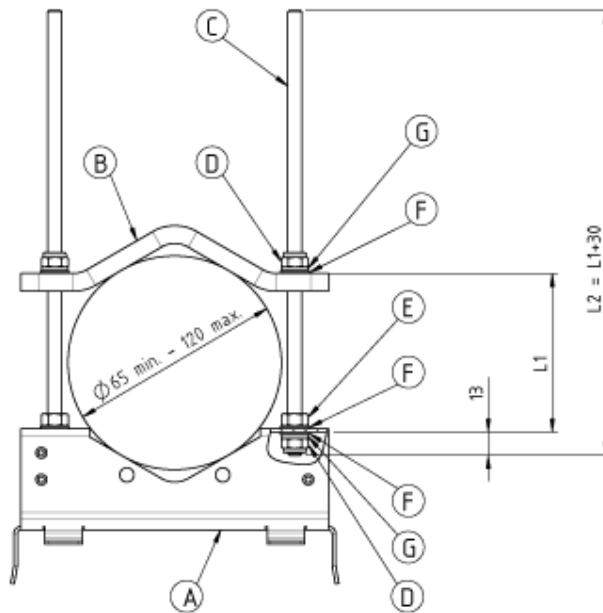
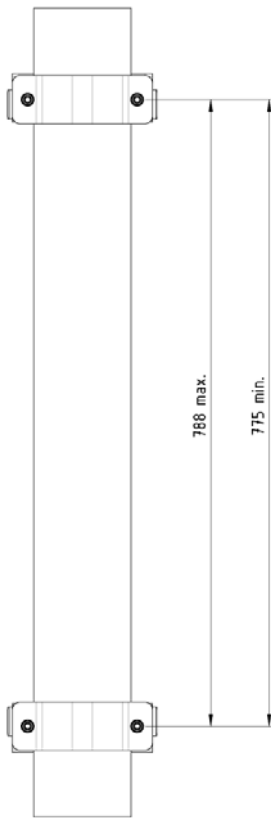

figure 4-6 Pole mounting – with brackets
figure 4-7 Pole mounting - pitches
Screw a hexagon nut (E) to the threaded bolt and place a flat washer (F) on it. Insert this side of the bolt into the mounting bracket (A). Then, fasten the mounting bracket with a flat washer (F), split lock washer (G), and the locking nut (D). See figure 4-6 Pole mounting – with brackets.
2. Place the pre-mounted brackets with threaded bolts to the pole or post, slide the counter bracket (B) on the threaded bolts and fasten the kit with a flat washer (F), split lock washer (G), and the locking nut (D).
- Note:** When fastening the brackets make sure that they are installed congruently and not at an angle to each other. To determine the distance between the clamps refer to figure 4-7 Pole mounting - pitches.
3. Hang the Remote Unit into the upper bracket, insert it into the lower bracket (see chapter 4.2.3), and fasten it to the lower bracket with the M8x25 screws (H), split lock washers (G), and flat washers (F).